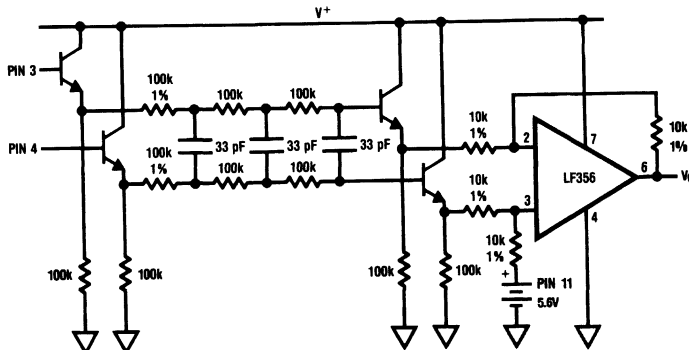

FIGURE 22. Circuit to view the differential demodulated data signal, minus the noise and  $2F_0$  components, conveniently with a single-ended gain-of-one output
- When evaluating PLL operation, offset cancel circuit operation, and loop filter values, use the filter of Figure 22 to view the demodulated signal minus the  $2F_0$  and noise components. This filter models the RC lowpass filter on chip.
FIGURE 24. Oscilloscope revealing signals at several important nodes under weak signal (0.5 mVRMS) conditions with SCR spikes on an otherwise quiet 115 V, 60 Hz power line. The signals are: 1) transmitted data, 2) RX carrier on the tuned transformer, 3) demodulated signal from the PLL after passing thru circuit of *Figure 22*, 4) signal after RC lowpass, 5) data at impulse noise filter integrator, and 6) received data. Horizontal scale is 10 ms per div.